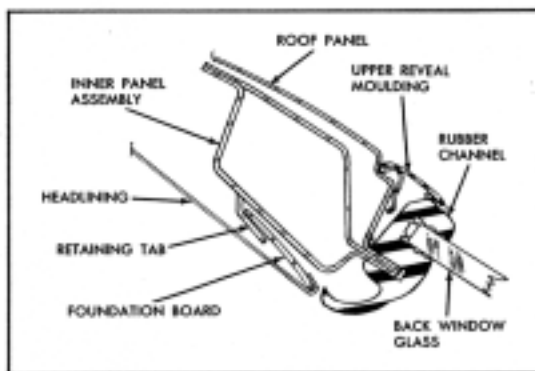

Fig. 1 Unconcealed Headlining
1. At affected area, as indicated in Figure 1, gently press rubber channel out of the way. Carefully grasp the rear edge of the headlining and pull the headlining down and rearward until the foundation board disengages from the retaining tabs in the rear roof bow. The retaining tabs may bend slightly during this operation.